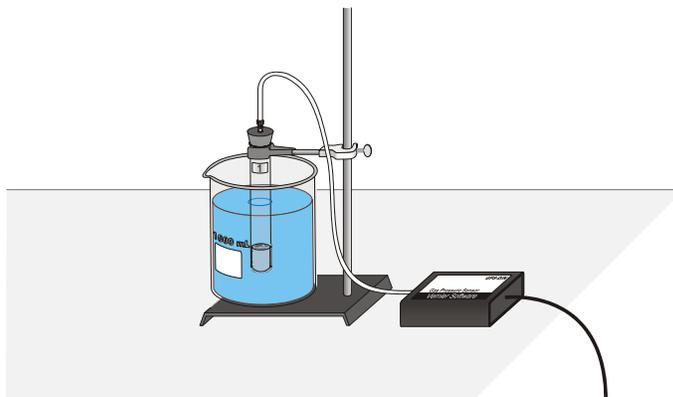

Figure 1
12. Insert the single-holed rubber-stopper into the test tube. **Note:** *Firmly* twist the stopper for an *airtight* fit. Secure the test tube with a utility clamp and ring-stand as shown in Figure. 1.